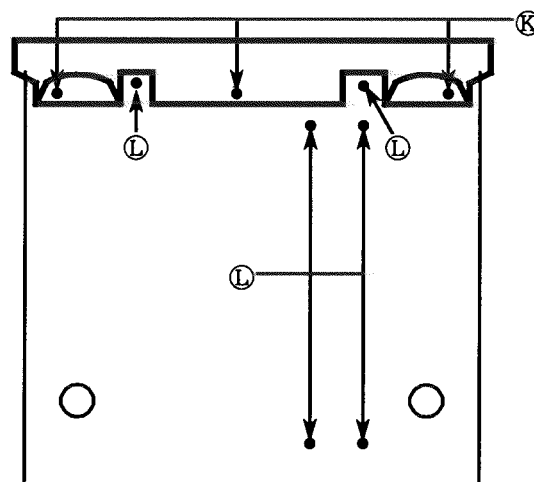

FIG.4 Bottom side
6. Remove 6 screws **L**.(FIG.4)